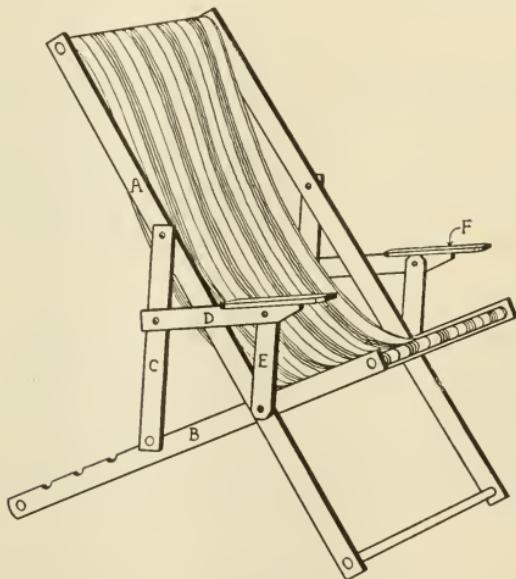

FIG. 37.—PORCH CHAIR ASSEMBLED.
6. Assembling the pieces.—(1) Fit and glue the rounds into *A* and *B* (Fig. 37). The distance between pieces *A* when fastened together should be $2' 3''$, inside measurements. The distance between pieces *B* should be $2' 3''$, outside measurements, as this pair must fit inside the first pair. (2) Fasten pieces *A*, *B*, and *E* together with the carriage bolts $3\frac{3}{4}''$ long, heads outside. (3) Fit round to pieces *C* so that they are $2' 3''$ apart, inside measurements. (4) Fasten the other ends of pieces *C* to *A* with carriage bolts $2\frac{1}{2}''$ long. (5) Fasten pieces *D* to pieces *C* with carriage bolts $2\frac{1}{2}''$ long. (6) Fasten pieces *E* to pieces *D* with carriage bolts $2\frac{1}{2}''$ long. (7) Fasten pieces *F* to pieces *D* with screws. (8) Fasten the canvas to the upper round of pieces *A* and *B* with heavy tacks, doubling under the canvas while tacking.